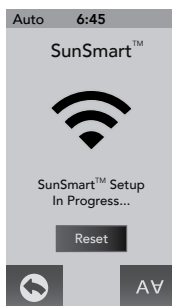

Figure 12.8c
2. Tap **Reset**, Figure 12.8c. The display will change to “Spa Wi-Fi Setup In-progress.”